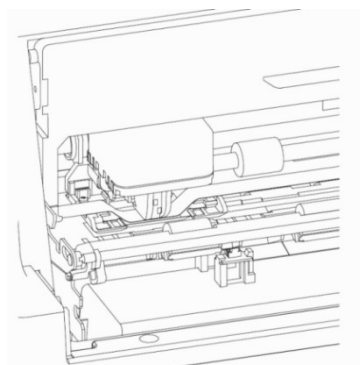

Fig. 1-8
- 4) Take out the ribbon cartridge, turn the knob anticlockwise as Fig. 4 to tighten the ribbon. Insert the fixed point into the frame in the direction of the arrow, then turn the ribbon cartridge till it enter into the rack totally. At last, turn the knob again to feed the ribbon down in to the printhead totally, see Fig. 1-8.